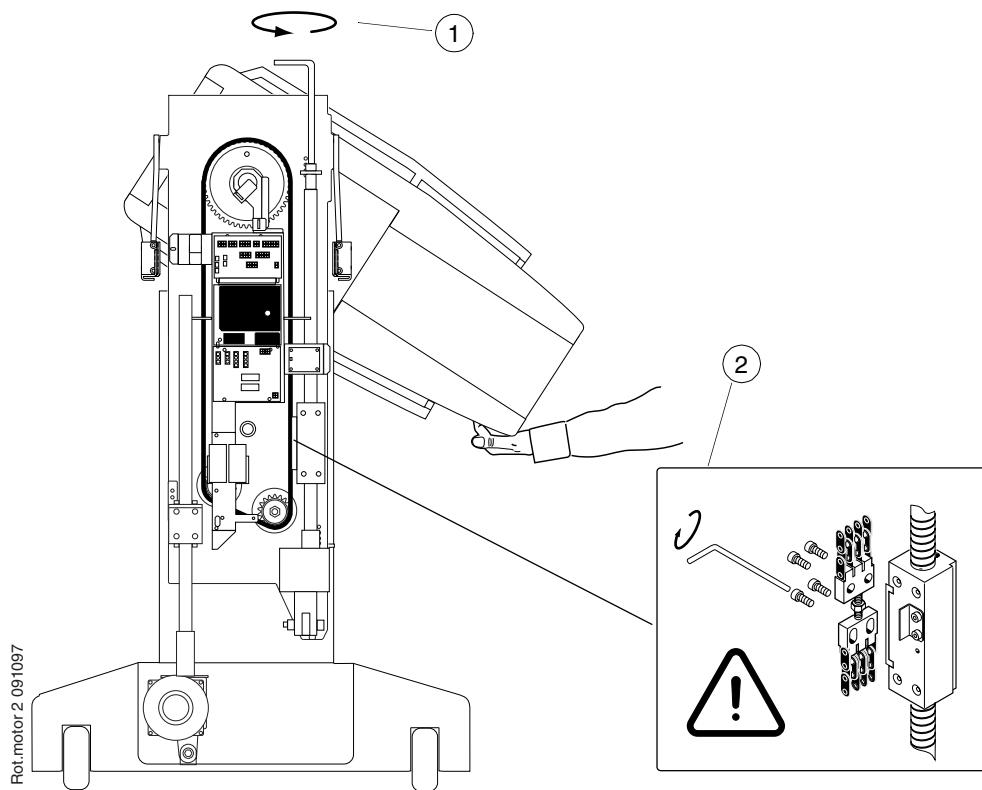

Figure H.33
- c) Support (you may need a helping hand) the C-arm at the tubehead while removing the four screws that fixes the chain to the worm-screw nut (see Fig. H.33).
- h) Rotate the worm-screw to move the C-arm to -135° position (Fig. H.33, 1).
- i) Support (you may need a helping hand) the C-arm at the tubehead while removing the four screws that fixes the chain to the worm-screw nut (Fig. H.33, 2). Let the arm rotate slowly down so that the tubehead is towards the floor.